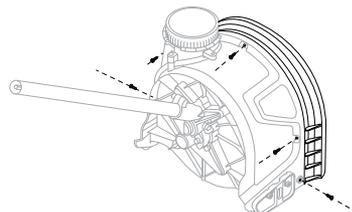

Fig. 5B
3. Insert the hood into the groove and lock it using the five screws. (Fig. 5B)